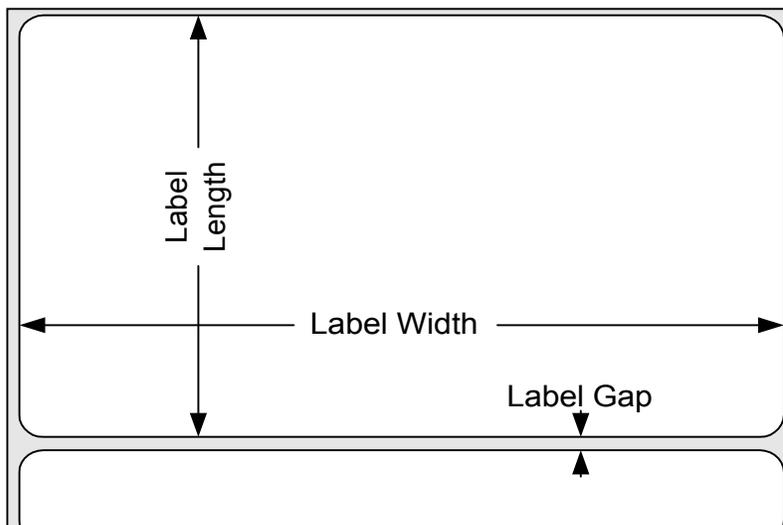

Figure 6 – Identification of Label Dimensional Features
Printing a label requires that the printer understand the exact dimension of each feature that makes up the label. Figure 6 diagrams a die cut label with a translucent backing. The dimensions shown indicate values the printer will need prior to printing a label. *(This procedure also addresses black bar labels and continuous labels.)*
6. Press the  key again. Label Length is the next parameter. Use the  or  keys to set the value to the label's length. This value does not include the Label Gap (see Figure 6). For label length information for other media types see this manual's **Media Settings** section.